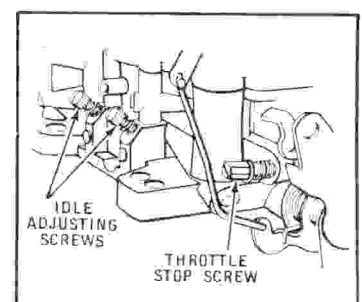

FIGURE 8
**I. Idle Mixture and Speed: (Fig. 8)**